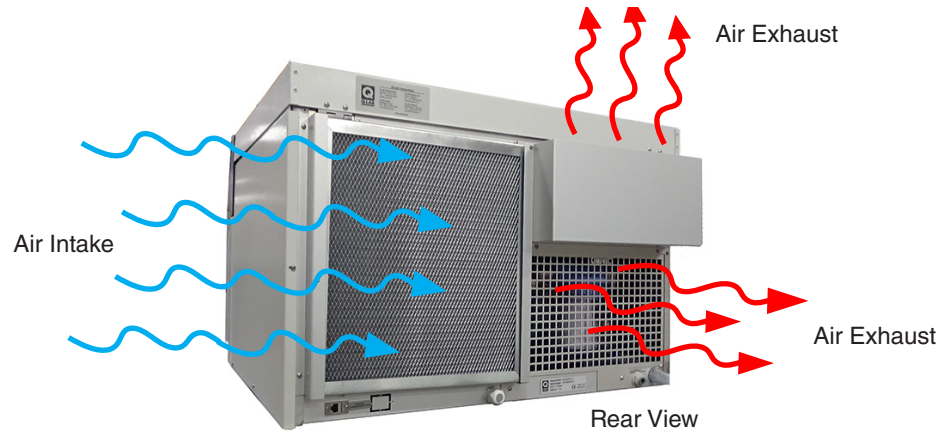

Figure 6.4b: Q-SUN Xe-1-SE air intake and exhaust areas.
- Xe-1 models are designed to release warm exhaust air directly into the room (See Figure 6.4b,c,d).